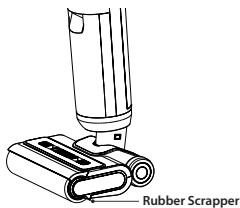

Fig 9
2. The underside of the motorized brush is equipped with a rubber scraper that helps collect and remove Waste Water during cleaning (Fig 9).